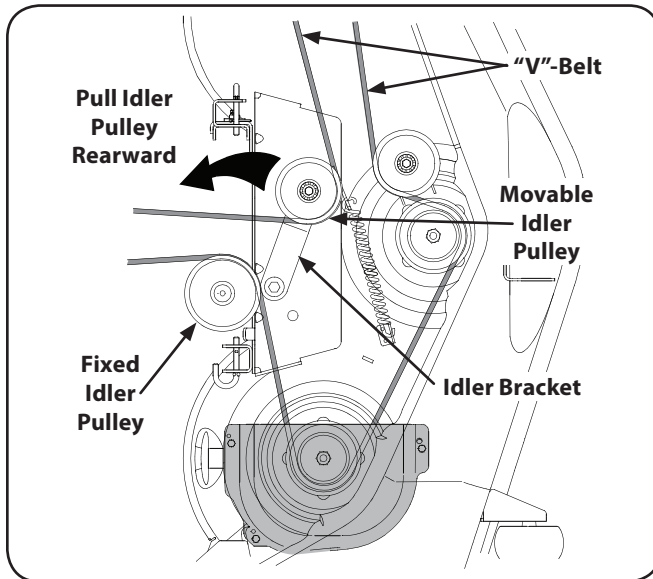

Figure 7-3
- Working from the middle of the tractor, pivot the idler bracket and movable idler pulley rearward away from the backside of the "V" belt just far enough to lift the belt up and over the idler pulley. See Fig. 7-3.
3. Route the backside of the belt around the fixed idler pulley of the deck. Refer to Fig. 7-3.
4. Working from the middle of the tractor, pivot the idler bracket/movable pulley rearward against the spring tension and slide the backside of the belt onto the movable idler pulley. Refer to Fig. 7-3.
2. Make certain the belt is in the spindle pulleys of the deck, and that the backside of the belt is against both the fixed and movable idler pulleys. Refer to Fig. 7-3.